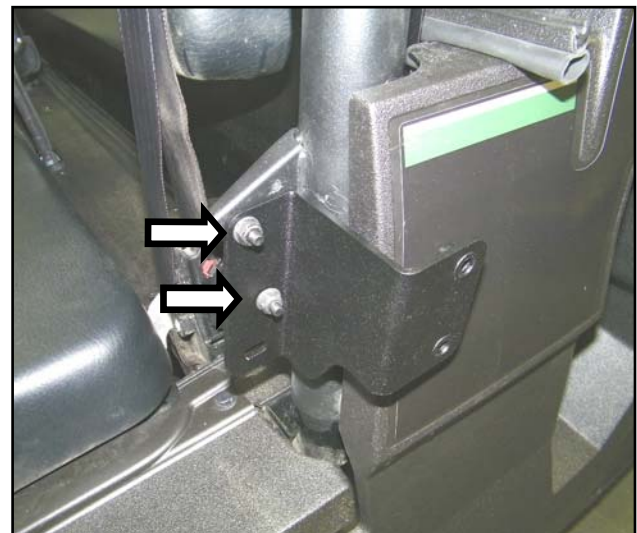

Fig. 3.2 B-Pillar Brackets
**3.2** Per figure 3.2, attach the B-Pillar brackets to the factory latch mounts on the ROPS with (2) 1/4-20 bolts and nuts, with the nuts toward the outside of the vehicle. Do not fully tighten.